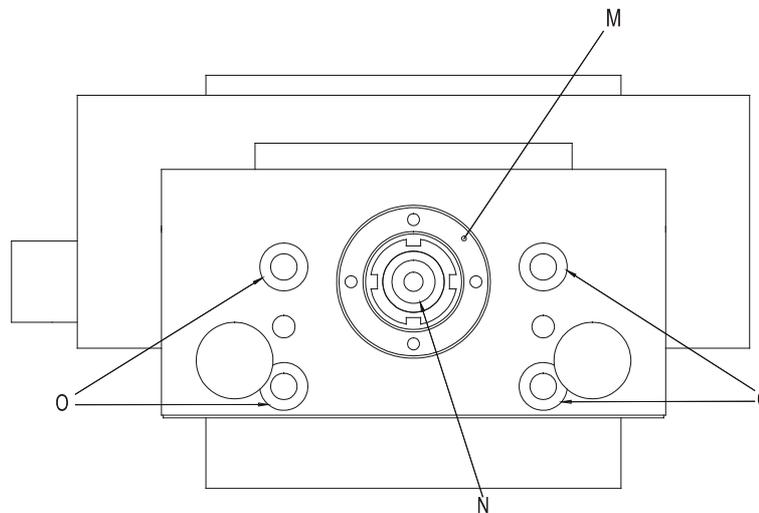

Figure 32: End-plate spindle bearing:
- Remove recessed-head screw (**N**) and threaded ring (**M**) (see *Figure 32, page 33*), (end-plate-side mounting bore in the spindle for fastening)
- Remove groove nut (see *Figure 32, page 33, N*).
- Remove end plates by loosening the four attachment screws (**O**) (see *Figure 32, page 33*).
- Replace linear bearings, push on clamping blocks again and connect to the carriage plate, (see *Figure 32, page 33*).
- Remove recessed-head screw (N) (see *Figure 32, page 33*), (end-plate-side mounting bore in the spindle for fastening)
- Remove recessed-head screw (**N**) (see *Figure 32, page 33*) (end-plate-side mounting bore in the spindle for fastening)
- Remove end plate by loosening the four attachment screws (**O**) (see *Figure 32, page 33*).
- Screw on end plate, tighten recessed-head screws and secure with threadlocker (see *Figure 32, page 33*)